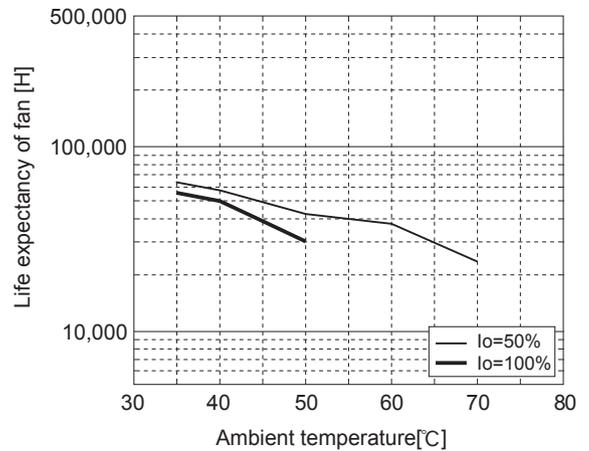

Fig.3.1 Life expectancy of fan of FETA2500BA
- Life expectancy (R(t)=90%) of fan depends on use conditions as shown in Fig.3.1.